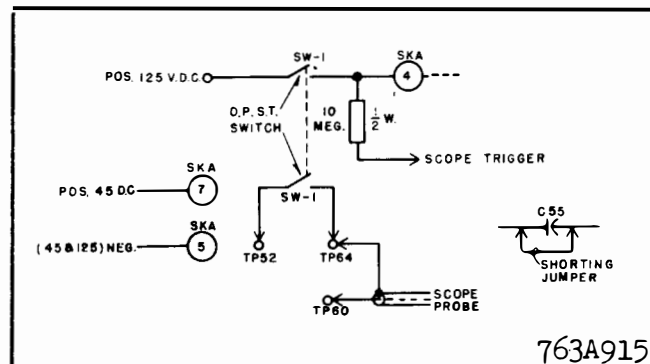

Fig. 10. Test Connections for the 3/0 MS Time Delay Unit and the Flip-Flop of the Type SKA Relay.
1. Make the connections shown in Fig. 10.